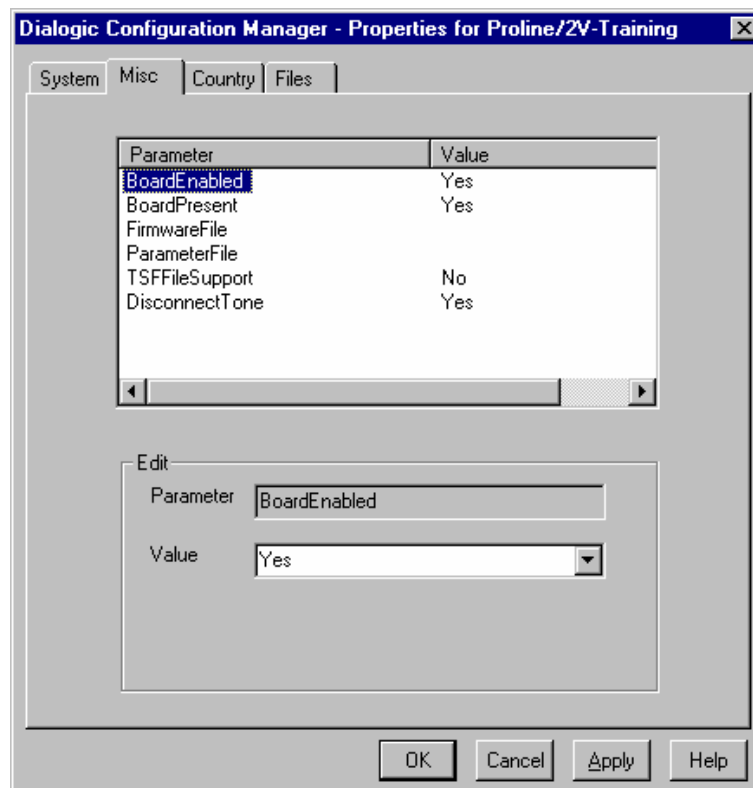

Figure B.16. Dialogic Miscellaneous Properties
- Click on the **Misc** tab on the **Properties** dialog box, as shown in **Figure B.16**. Verify that the configured parameters are correct. Then click **Apply** and **OK**.